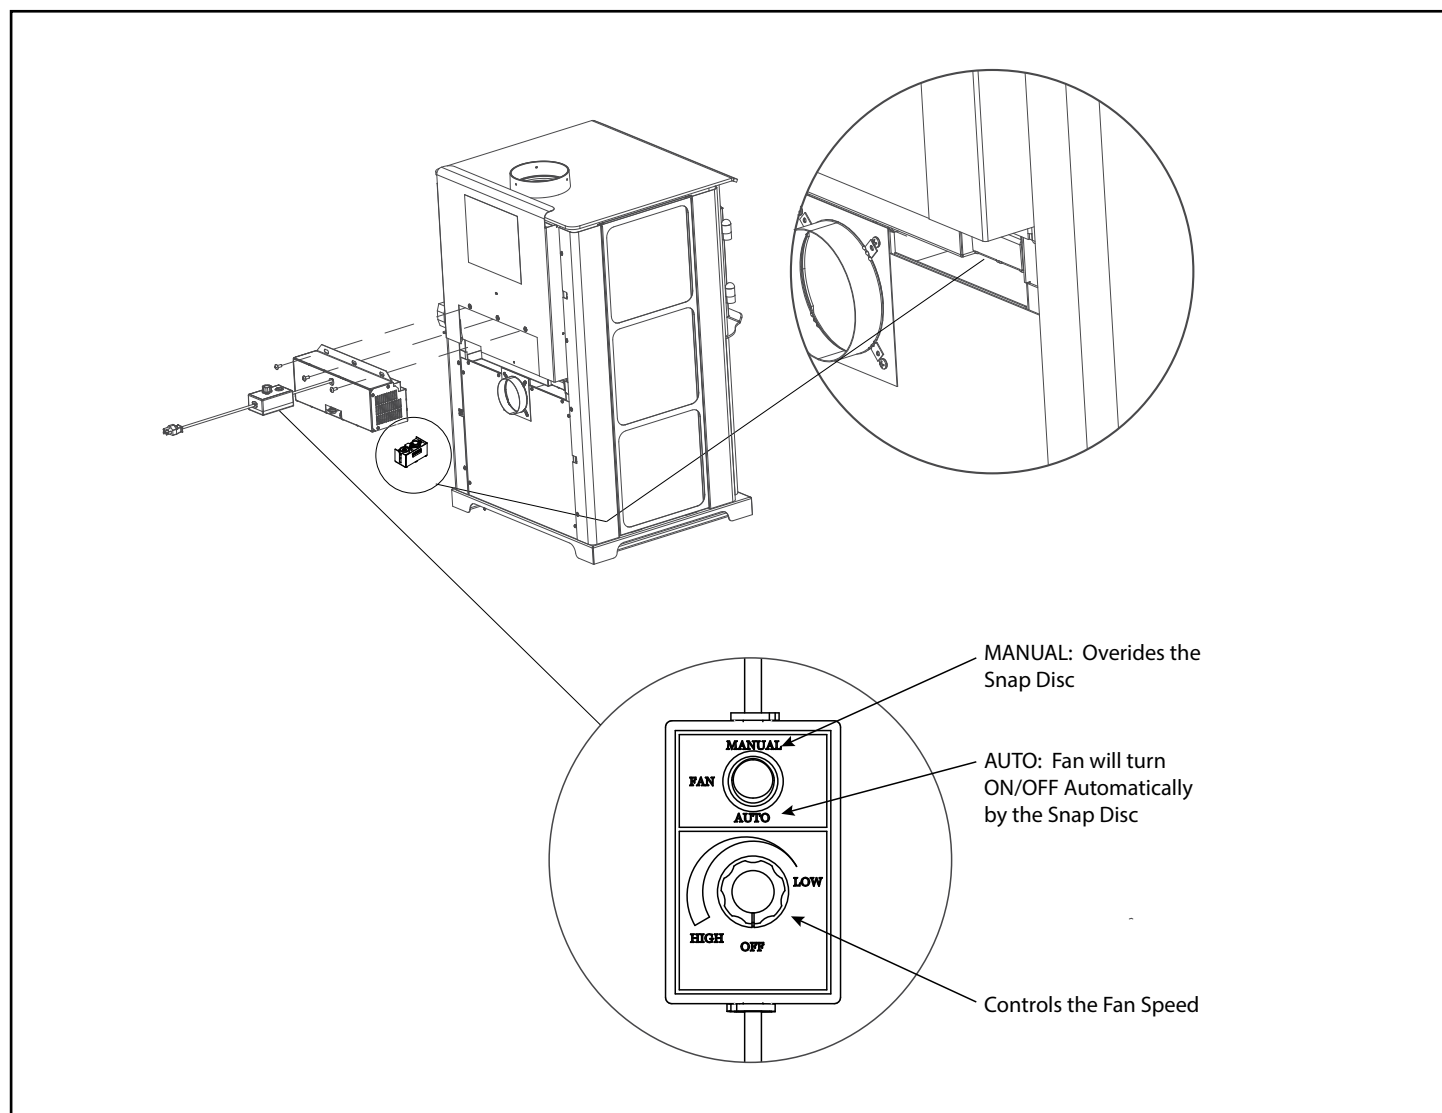

Figure 18.2
2. Align holes in mounting flange of blower with bolt holes in appliance. Blower should be positioned at bottom of rear outer skin as shown in **Figure 18.2**.